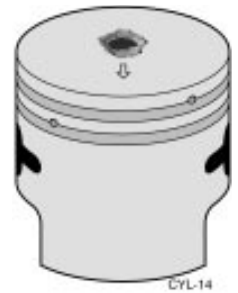

Figure 2.7 Damage caused by detonation.
- **Outdated or low-octane fuel** can burn unevenly and unpredictably, producing excessive combustion pressures that tend to have a hammering effect on pistons (Figure 2.7). Shindaiwa engines require a fuel with an octane rating of at least 87 or above. Unless stored fuel has been pre-treated with an approved fuel stabilizer such as Sta-Bil™, Shindaiwa advises against using any motor fuel stored over 30-days.